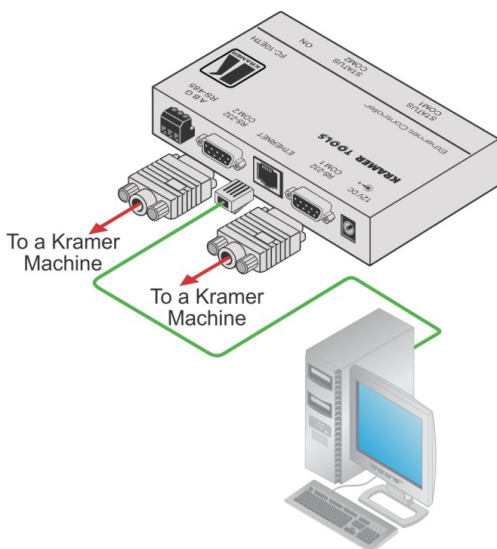

Figure 5: Connecting the FC-10ETH for Configuration
1. Connect the **FC-10ETH** as described in Section 4.2 (see Figure 5)